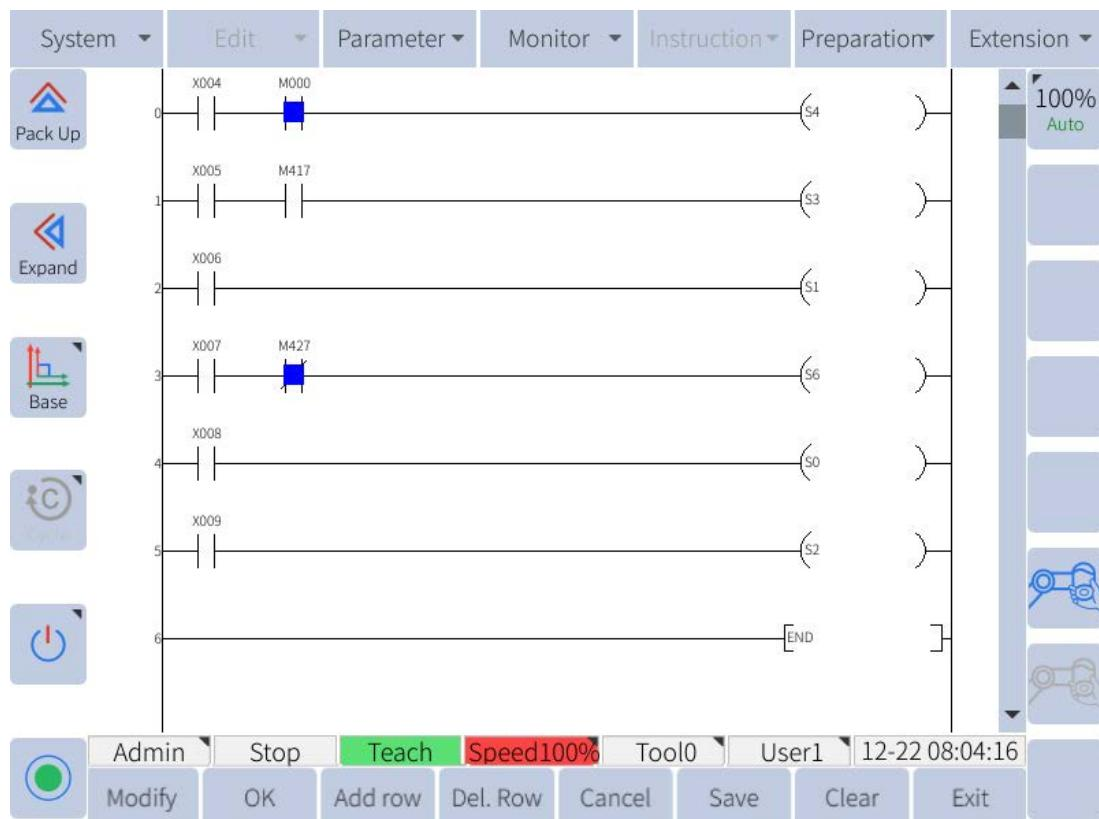

Figure 10-3 : Example of how to set the PLC to make the robot jump to the main program
Figure 10-3 shows an example of a PLC program, the user can create this program to run the main program.
4. Select “Extension -> User PLC”, edit the following PLC sample program, as shown in **Figure 10-3** :